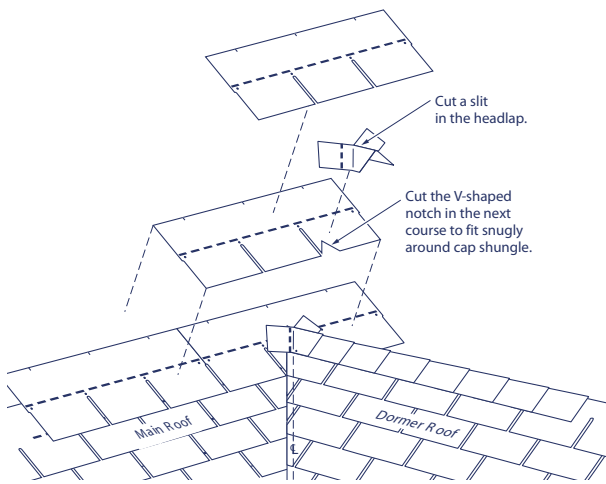

Figure 9-10: 'Exploded' view of the entire assembly where the dormer ridge meets the main roof
9. The slit in the ridge cap must be covered completely by the shingle over it in the next course. If cutouts or butt joints are closer than 100mm to the slit, a scrap piece of shingle at least 200mm wide by 300mm high should be installed over the cut before the full shingle is applied (Figure 9-10).